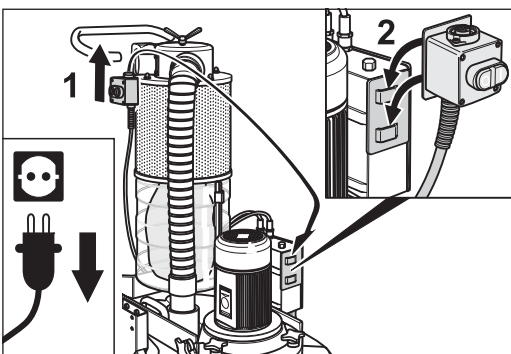

Fig. 88 Hook the on/off switch into the transport holder on motor switch box.
- 5 Remove the on/off switch from the chassis (fig. 88, 1) and hook it into the transport holder on motor switch box (fig. 88, 2).